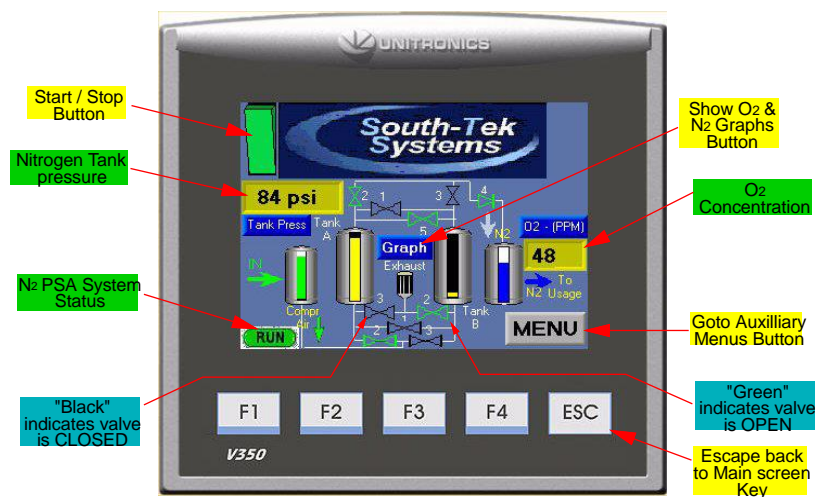
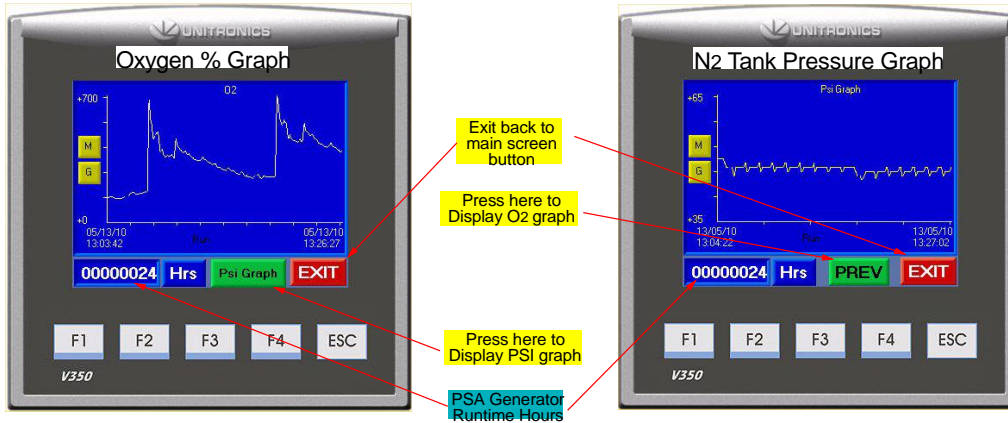

Figure 1: Power Switch/System Status
Figure 2: Graph Menu
From the “Main Screen”, the user can access the “Run Hour” and graphic displays of the O2% content and N2 Storage tank pressure. To do so, touch the icon labelled “Graph” (see **Figure 1**). The bottom left shows the total run hours. The graph shows the current running O2 %. To see the N2 Tank pressure, click on the green PSI button to switch the graph (See **Figure 2**).
The PLC comes standard with a pressure indicator to display the current pressure inside the Nitrogen Storage Tank. Looking at the above **Figure 1**, the tank pressure can be view on the left side on the main screen.
8. When Product Pressure reaches the cut-out pressure (see **5.1.3**), the green “Run” indicator will switch to the amber “Standby” indicator (see **Figure 1**) and nitrogen production will stop. When product is used and Product Pressure falls to the cut-in pressure, the “Standby” indicator will switch back to “Run” and nitrogen production will resume.